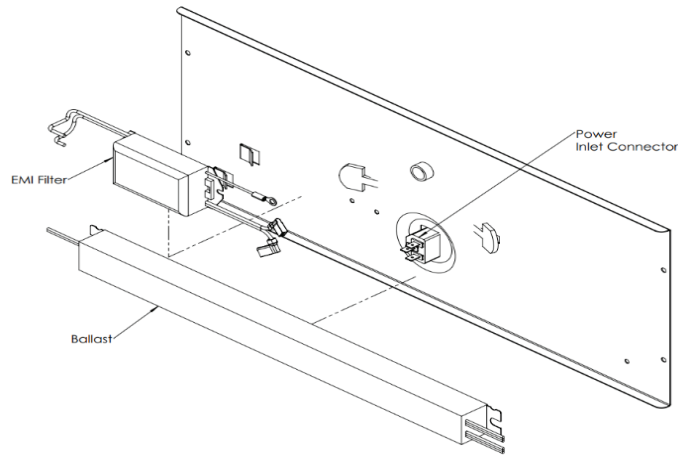

Figure 4. Remove Ballast and EMI filter from the Cover Panel
Step 6. Remove the ballast and EMI filter from the cover panel. See Figure 4.